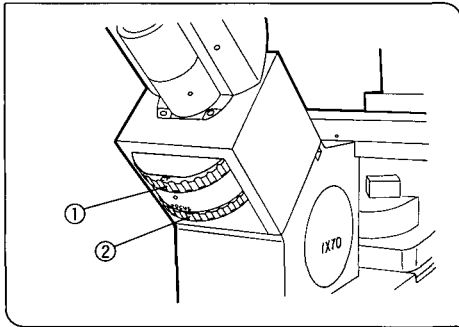

Fig. 84
2. When the U-BI90CT binocular observation tube is used, rotate the CT turret ① to select the "CT" position. When observation tubes other than the U-BI90CT are used, remove an eyepiece and replace it with the focusing telescope (U-CT30). (Fig. 84)
4. Turn the focusing ring ② (the knurled ring in case of the focusing telescope) and focus on the objective phase annulus ④ matching the condenser ring slit ③. (Figs. 84, 85)